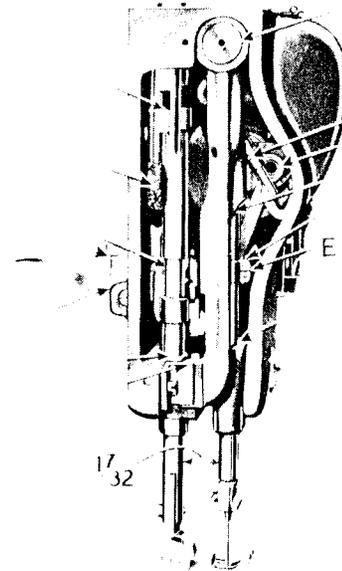

Fig. 4. End View of Machine, Showing Oiling Points
In case the needle bar is not correctly set, loosen the needle bar connecting stud pinch screw (E, Fig. 4, page 5) and place the needle bar in the correct position as directed above, then re-tighten the screw (E).
The distance between the needle bar and presser bar, after adjusting the feed eccentric so that there is no feed movement, should be 17/32 inch as shown in Fig. 4, page 5.